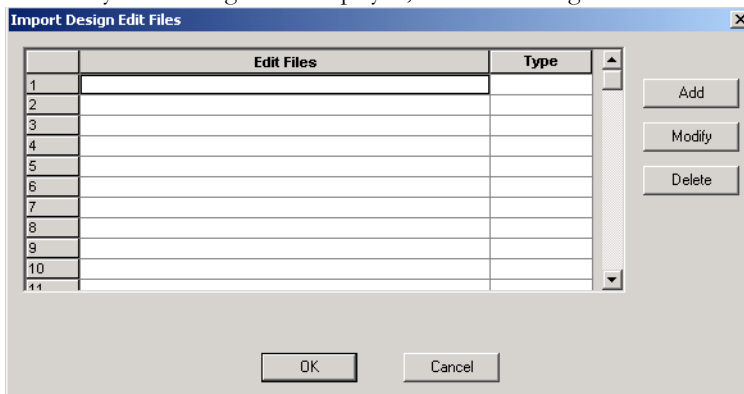

Figure 7-11. Import Auxiliary Files Dialog Box
1. **From the File menu, click *Import Auxiliary Files*.** The Import Auxiliary Files dialog box is displayed, as shown in Figure 7-11